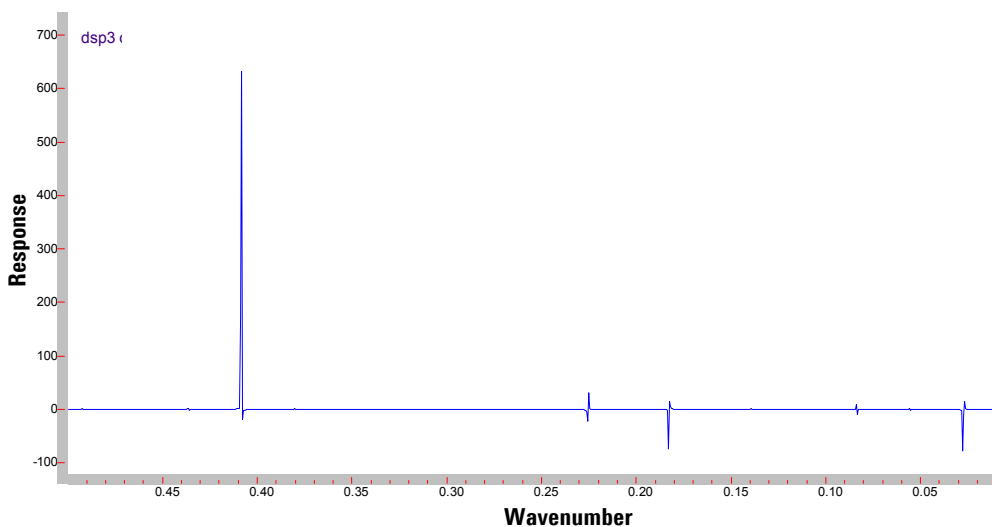

Figure 7. Spectrum of time based raw data for step number 75Error! No bookmark name given.
- 11 In the resulting spectrum, there should be a strong peak at approximately 0.41 as shown in Figure 7. Multiply the peak location by 28571. Subtract this product from 85714. This result is the actual frequency of the PEM. Enter this value for the 'PEM Frequency in Hz' parameter and then click Scan again. This value may be different than the value on the PEM controller display. Note the difference between the calculated value and the displayed value. This difference will be constant.